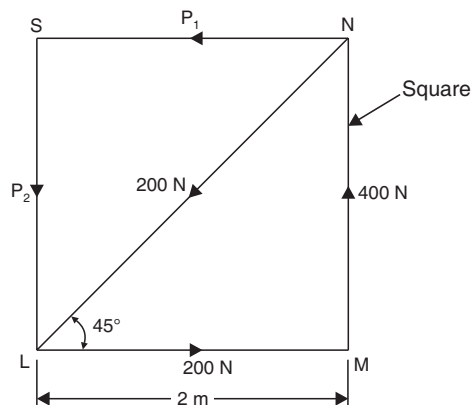

Fig. 3.40
**Example 3.11.** A square  $LMNS$  has forces acting along its sides as shown in Fig. 3.40. Find the values of  $F_1$  and  $F_2$ , if the system reduces to a couple. Also find magnitude of the couple, if the side of the square is 2 m.
**Sol.** Refer to Fig. 3.40.